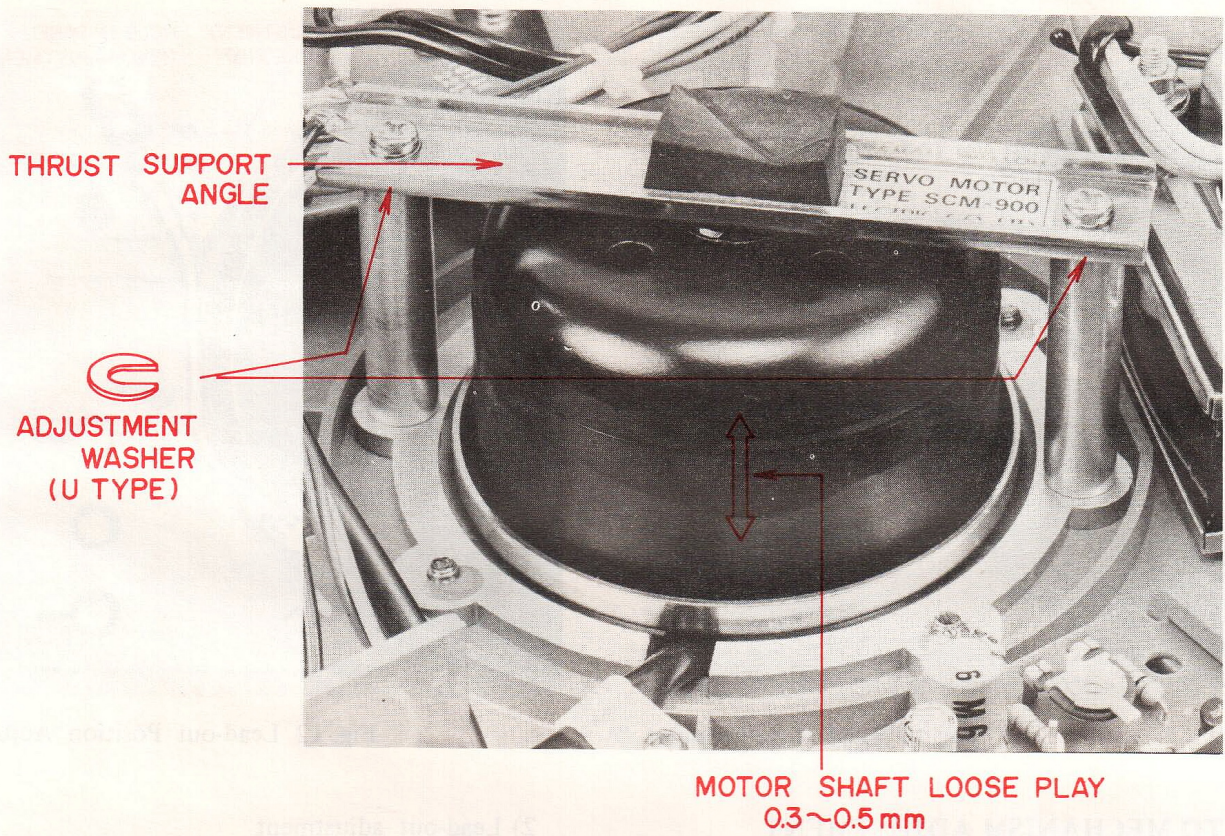

Fig. 9
5. MOTOR SHAFT LOOSE PLAY ADJUSTMENT (Refer to Fig. 9)